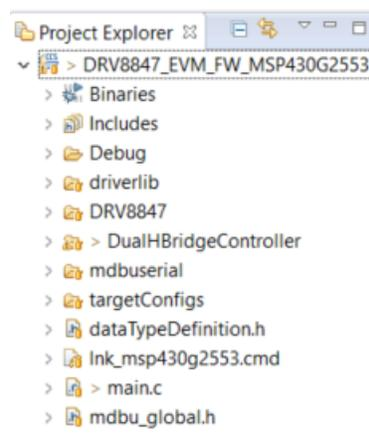

Figure 21. Project Explorer
- Step 5. Make sure that the project appears in the *Project Explorer* window after the projects are imported to the workspace as shown in Figure 21.